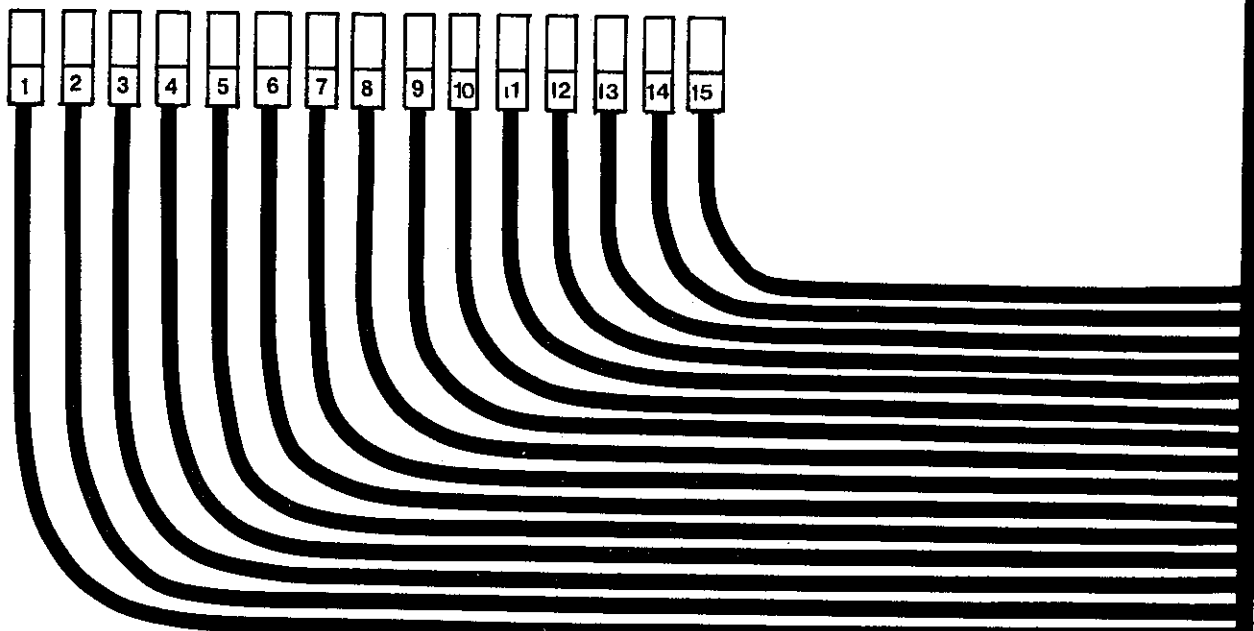
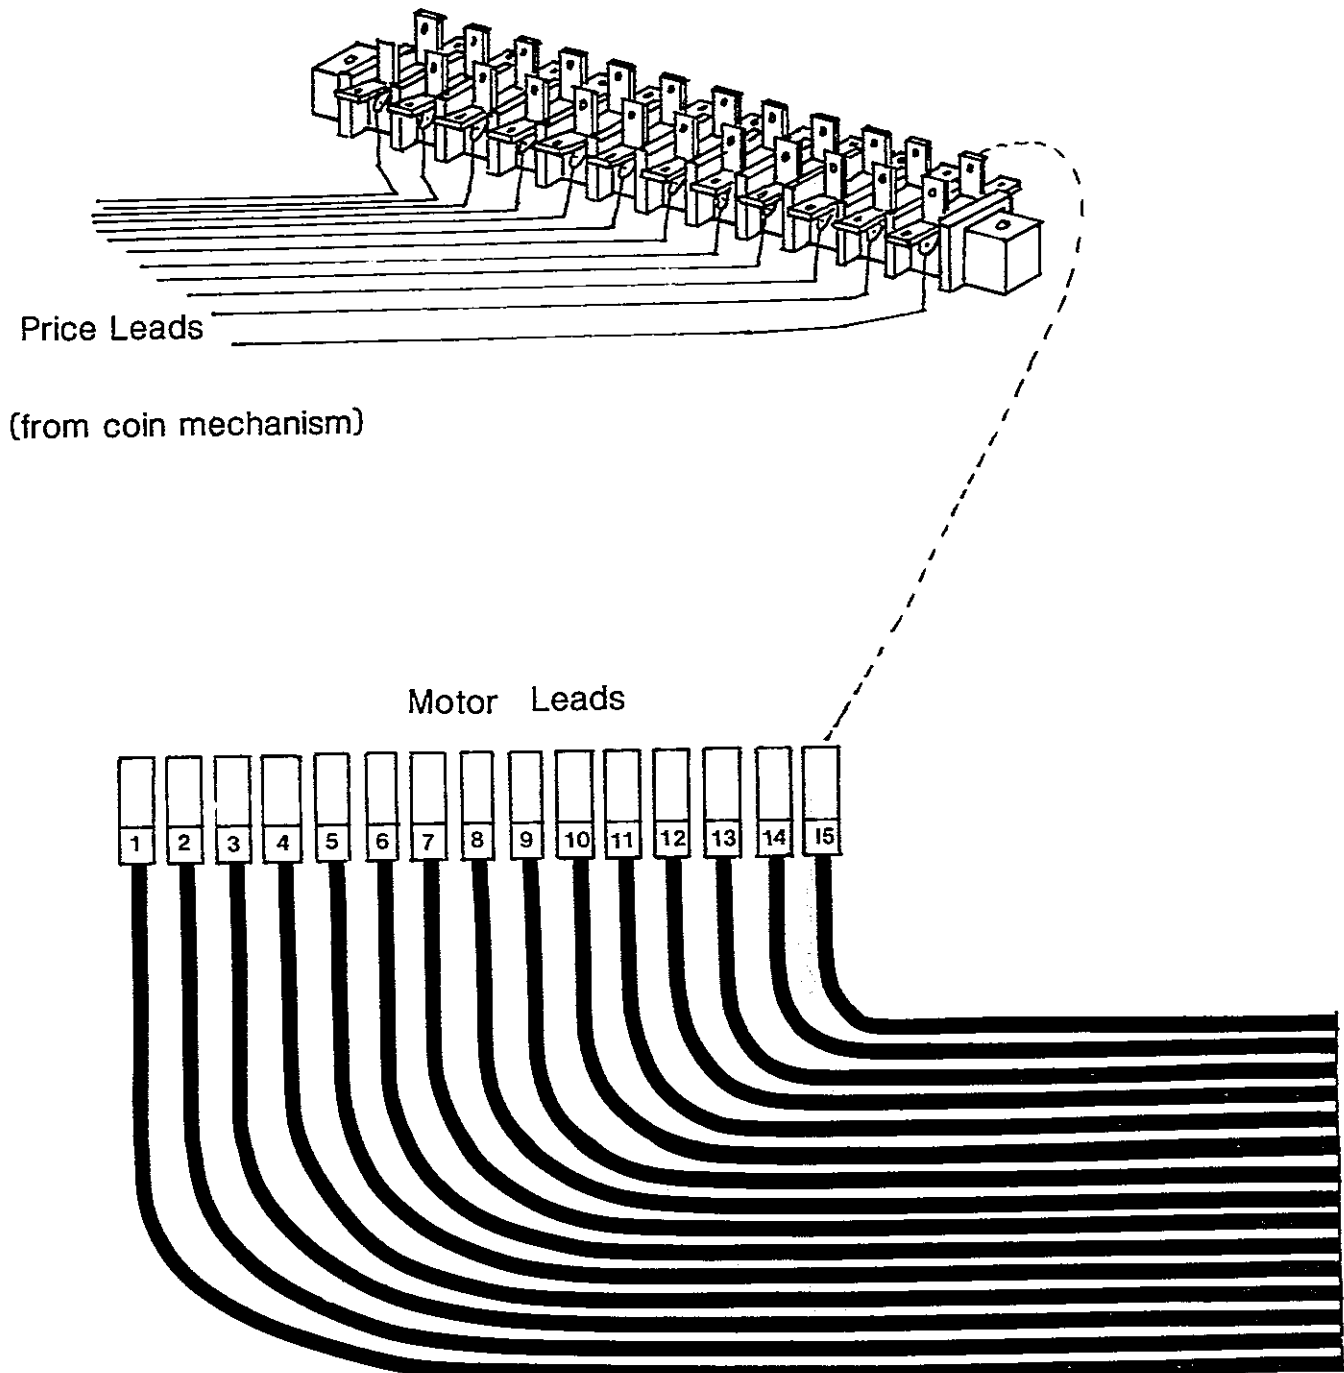

FIGURE 2
FIGURE 3
- Plug numbered motor leads to one of the terminal strips that has the desired price setting for that selection. See FIGURE 2 for 4-price type or FIGURE 3 for 12-price.